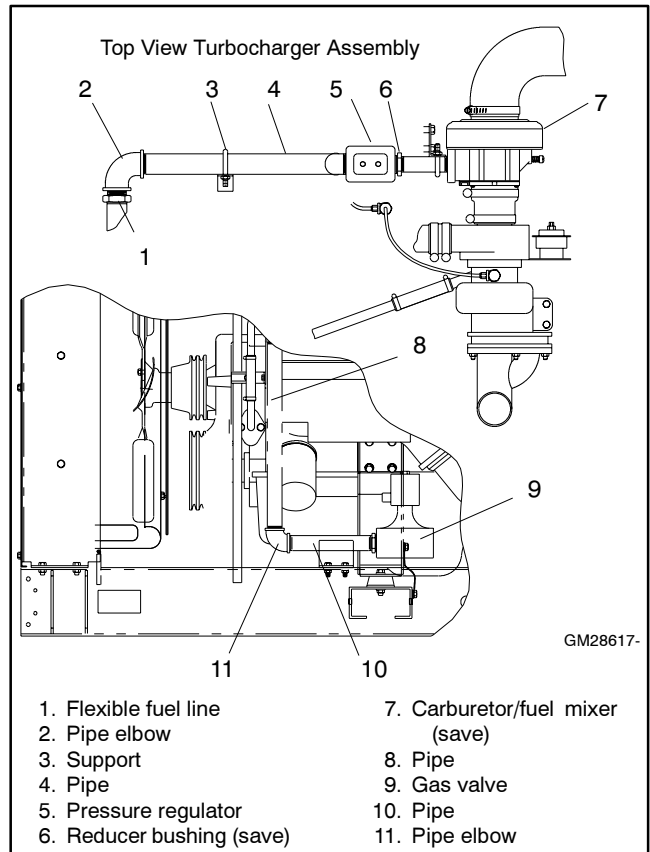

Figure 2 Existing LP Gas Fuel System (80/100 kW models with Ford engines)
- 2.5 Remove the existing fuel system components shown in Figure 2 for **80/100 kW models with Ford engines**. Save the reducer bushing removed from the pressure regulator for installation later.